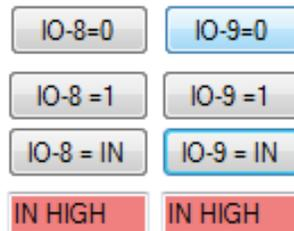

Figure 5. GPIO Tab
- Step 3. Under the GPIO tab, clicking the *IO-8 = IN* and *IO-9 = IN* buttons to ensure that IO-8 and IO-9 are set as *IN HIGH* (see Figure 5).